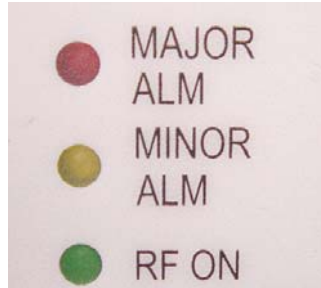

Figure 1 Power Amplifier Indicators
1. Set up the structure according to the figure 1.